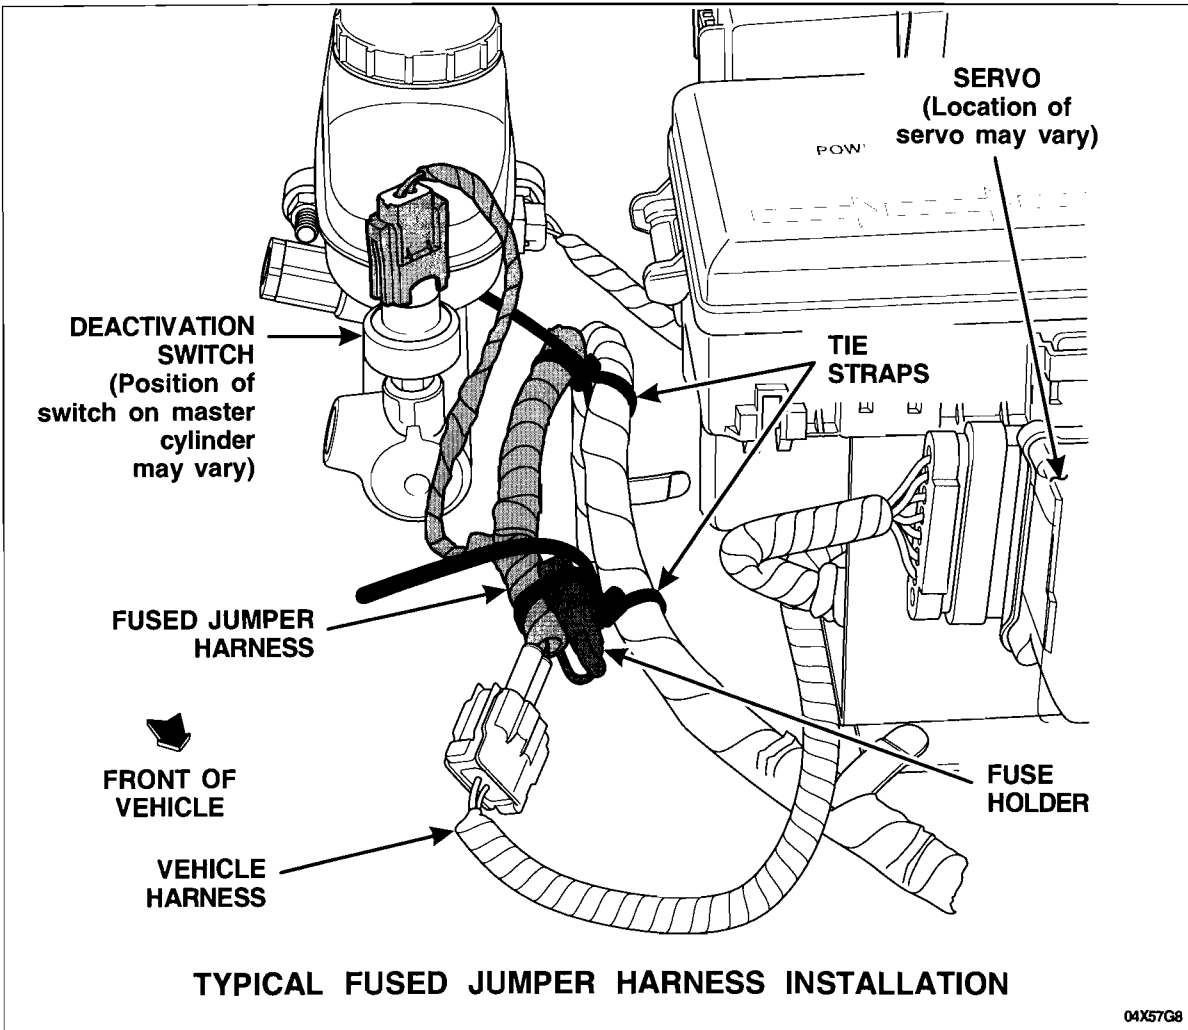

FIGURE 3
3. Secure the jumper harness to the existing harness with tie straps, making sure the fuse holder is positioned vertically with the cap facing upward. Wrap the tie straps underneath, then over the top of the existing harness and verify proper fuse holder orientation. See Figure 3.